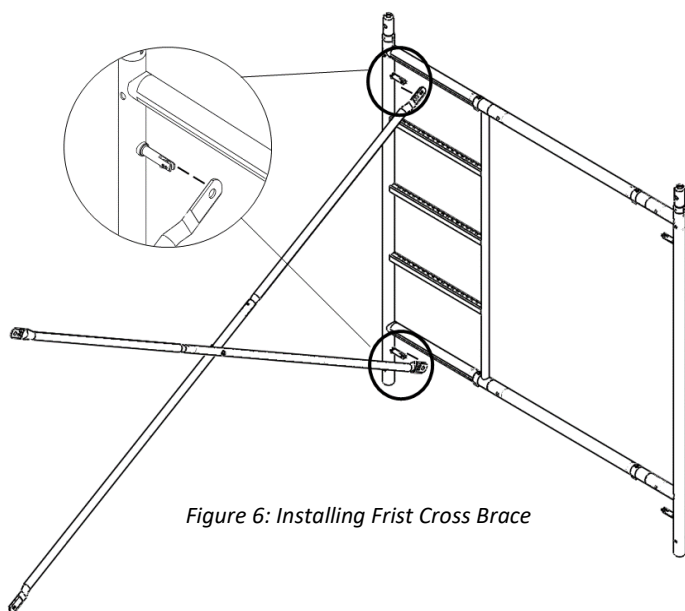

Figure 6: Installing First Cross Brace
10. Lift one of the assembled frames and proceed to install the assembled cross braces on the locking pins making sure the locking pin drops into its final position and the brace can't come off by itself (Fig. 6). Start with the top locking pin and then do the bottom locking pin.